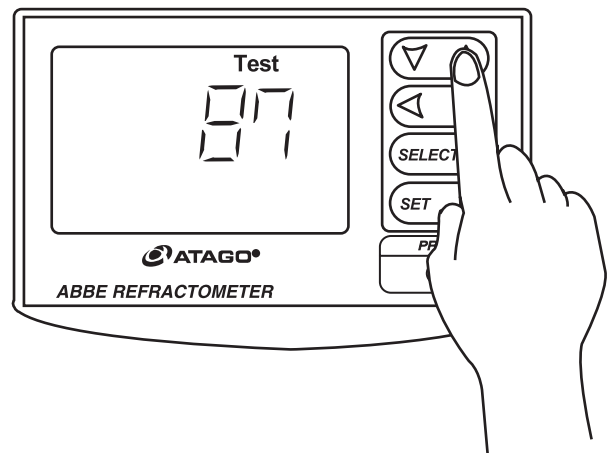

Fig. 10-4
④After the SET key is pressed, quantity of light is displayed. Press the ∇ or \wedge key to adjust the quantity of light (100 steps from 0 to 100) and press the SET key for decision (Fig. 10-4).
⑤The indication returns to [2]. That is all for the LED adjustment. Select a desired measurement mode (nD or Brix) with the SELECT key and then press the SET key to set the refractometer to the mode.